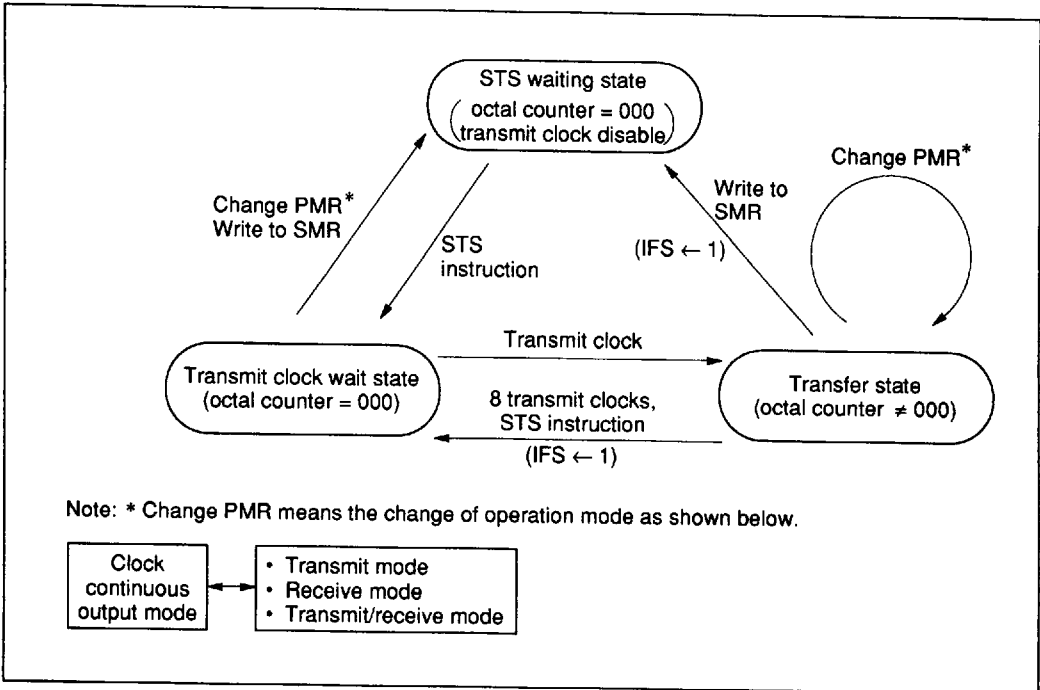

Figure 11 Serial Interface Mode Transition
**Operating State of Serial Interface:** The serial interface has three operating states: the STS waiting state, transmit clock wait state, and transfer state, as shown in figure 11.